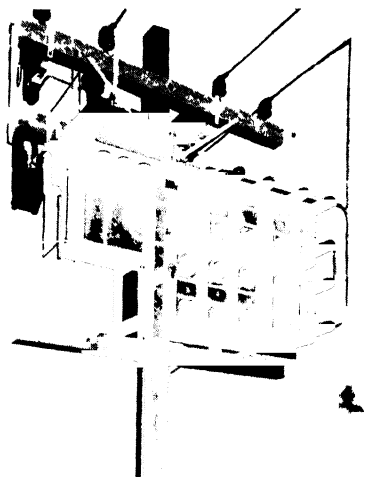

FIG 7-8. Three-phase pole-mounted oil-switch installation used to cut the capacitors shown in and out of the circuit. (Courtesy General Electric Co.)
**Pole-type.** A pole-type oil switch is one designed for crossarm mounting as shown in Fig. 7-8, the same as a transformer. Hangers are provided on the case for attaching to the crossarm. By mounting the